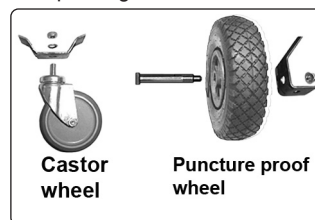

fig. 1
- 4.1.1. Assemble the wheels and swivel castor using the nuts, bolts and washers supplied (fig 1).
A: Replace air filter (figs 1 & 4).